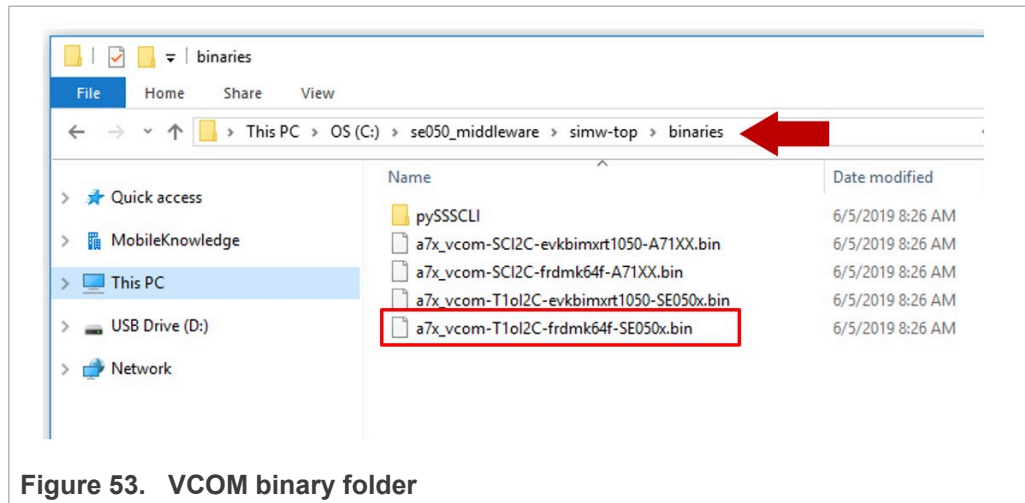

Figure 53. VCOM binary folder
- 3. Flash the VCOM software to FRDM-K64F. The VCOM software binary can be found in the EdgeLock SE05x Plug & Trust Middleware package, inside the `simw-top` \binaries folder as shown in Figure 53: